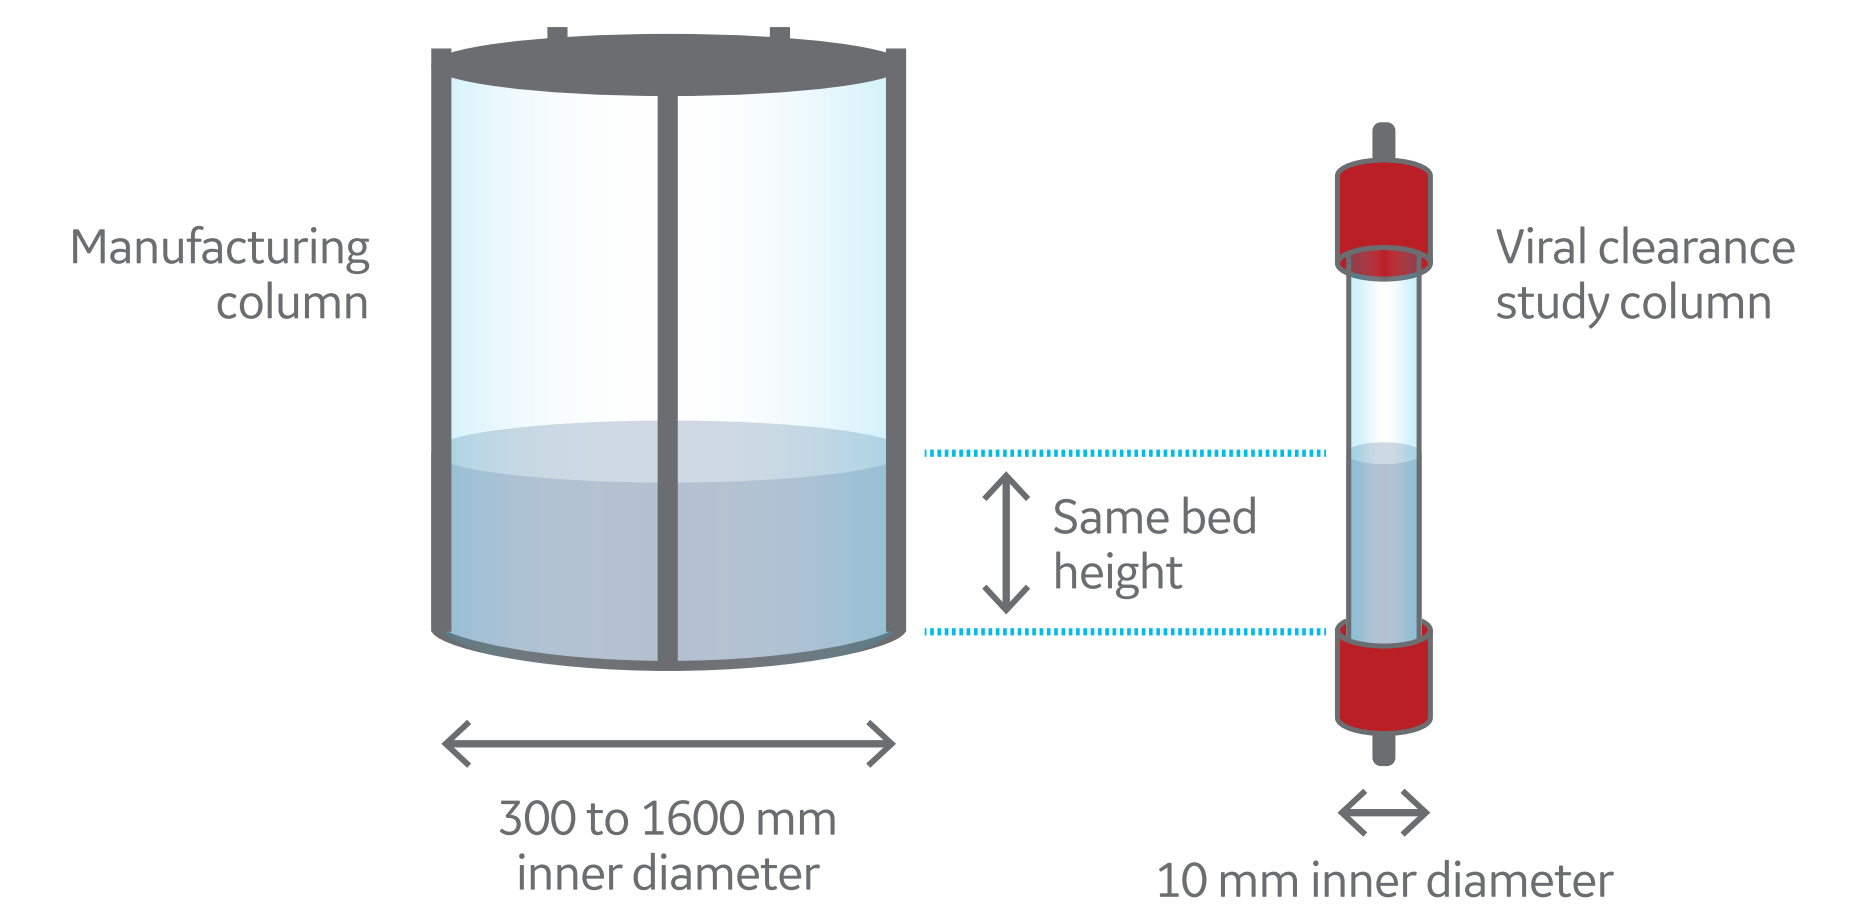

Fig 1. Schematic description of scale-down chromatography model.
2. Use a column with a narrow inner diameter (Fig 1)